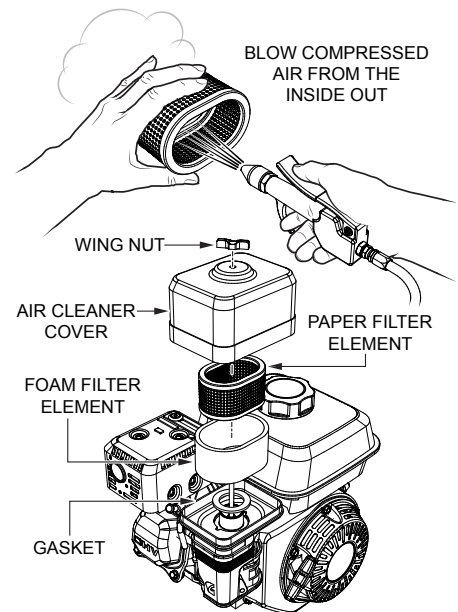

Figure 24. Engine Air Cleaner (Standard)
The Honda GX390K1SM32, GX390U1SM32 and GX390UT2SM32 engines are equipped with a replaceable, high-density paper air cleaner element. See (Figure 24) for air cleaner components
1. Remove the air cleaner cover and foam filter element as shown in Figure 24.
2. Tap the paper filter element (Figure 24) several times on a hard surface to remove dirt, or blow compressed air [not exceeding 30 psi (207 kPa, 2.1 kgf/cm²)] through the filter element from the air cleaner case side. **NEVER** brush off dirt. Brushing will force dirt into the fibers. Replace the paper filter element if it is excessively dirty.